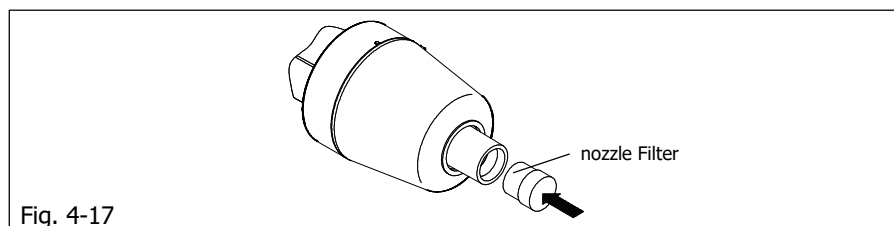

Fig. 4-17
- 3) For the 5000 μL and 10000 μL types, the attached nozzle filter can be attached to the nozzle as required. Insert the nozzle filter firmly into the nozzle before use. (Fig. 4-17)